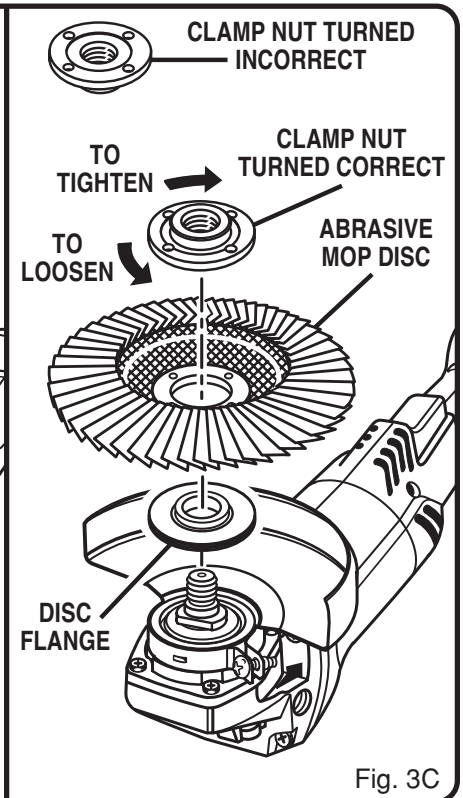

Fig. 3C
- To install abrasive mop disc: Thread the clamp nut on the spindle with the flat side of nut facing down. Finger tighten. See figure 3C.